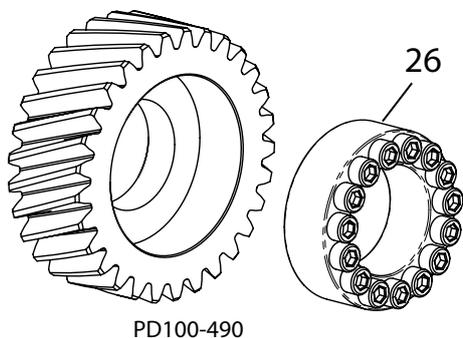
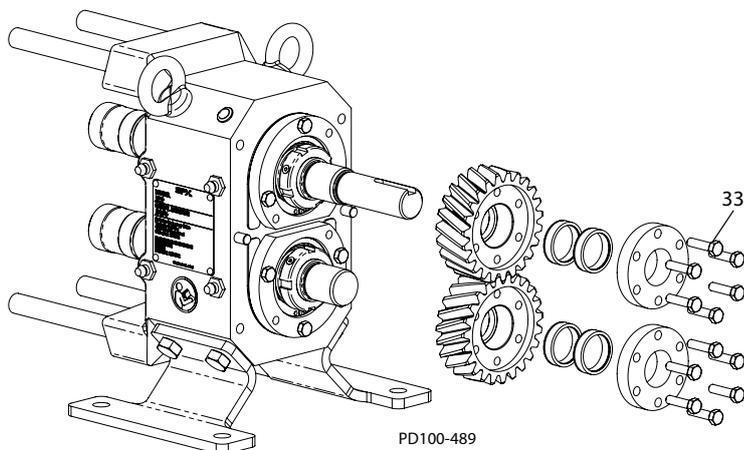

Figure 38 - Locking Assembly
Figure 39 - Remove Gear and Locking Assembly
1. Loosen the clamp ring screws (Figure 39, item 24) or locking screws in the locking assembly (Figure 38, item 26) to release the gear from the shaft.